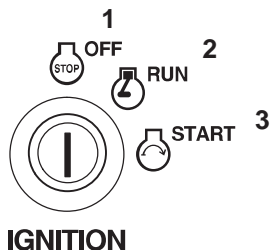

Figure 18
- Let the engine idle for 60 seconds (Fig. 18).
- Turn the ignition key to off (Fig. 18).